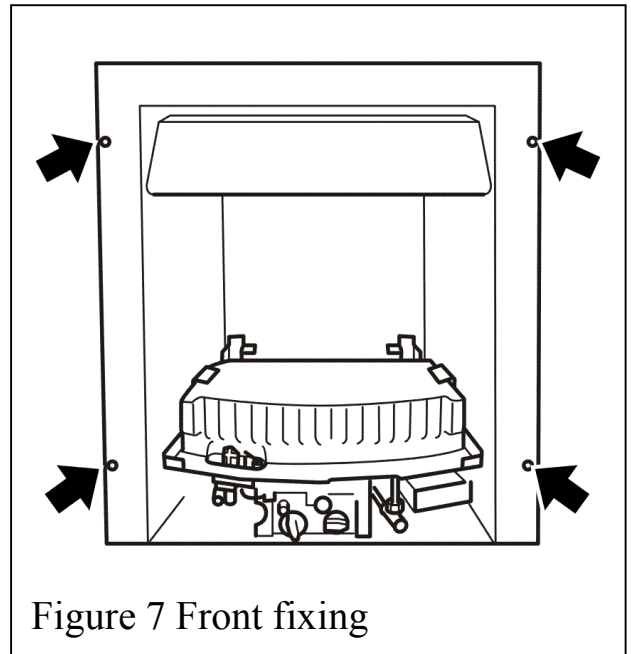

Figure 7 Front fixing
3. Mark the fireplace front surround through the four fixing holes in the side flanges of the convection box. See figure 7.